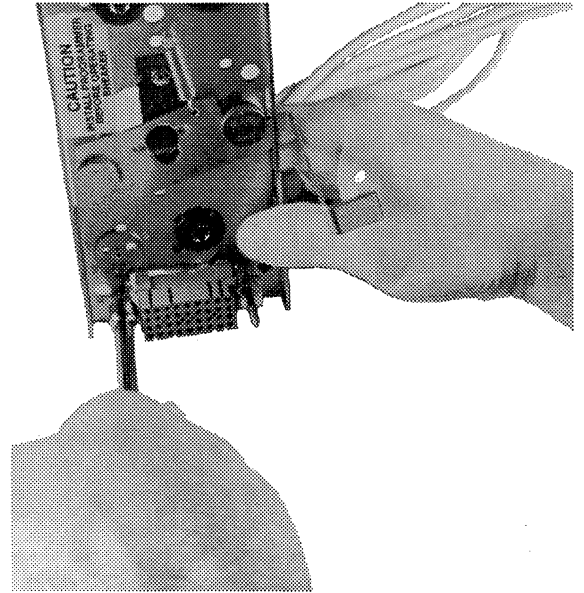

Figure 11. Installing the push nuts onto the guide pins.
4. Slide the adapter bracket and connector assembly over the guide pins of the trip unit bracket. Press the two steel push nuts provided onto the guide pins using a nut driver, as shown in Figure 11, until the assembly is held firmly against the trip unit mounting plate.